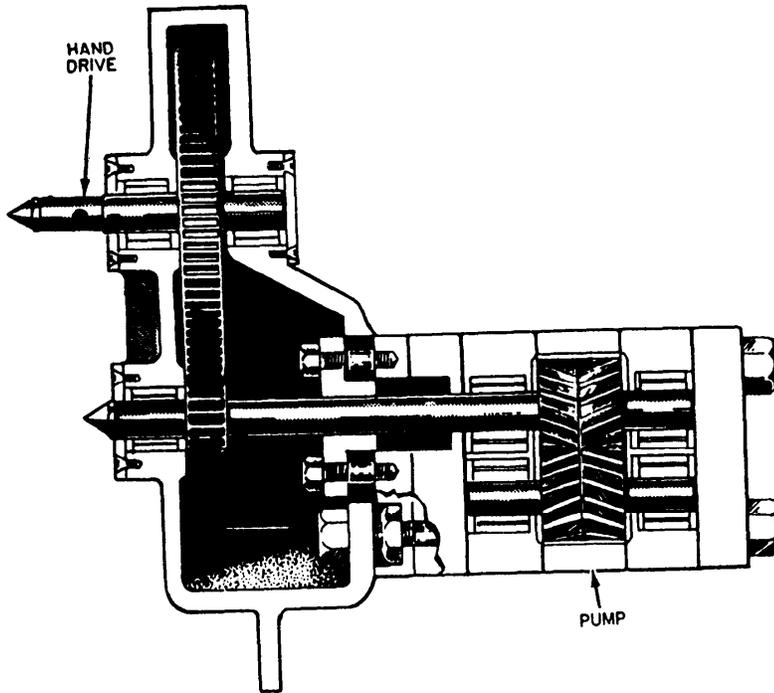

Figure 5-17.—Herringbone gear pump.
**HERRINGBONE GEAR PUMP.**—In the herringbone gear pump (fig. 5-17), a modification of the simple gear pump, one discharge phase begins before the previous discharge phase is entirely complete; this overlapping tends to give a steadier discharge pressure than is found in the simple gear pump. Power-driven pumps of this type are sometimes used for low-pressure fuel oil service, lubricating oil service, and diesel oil service.